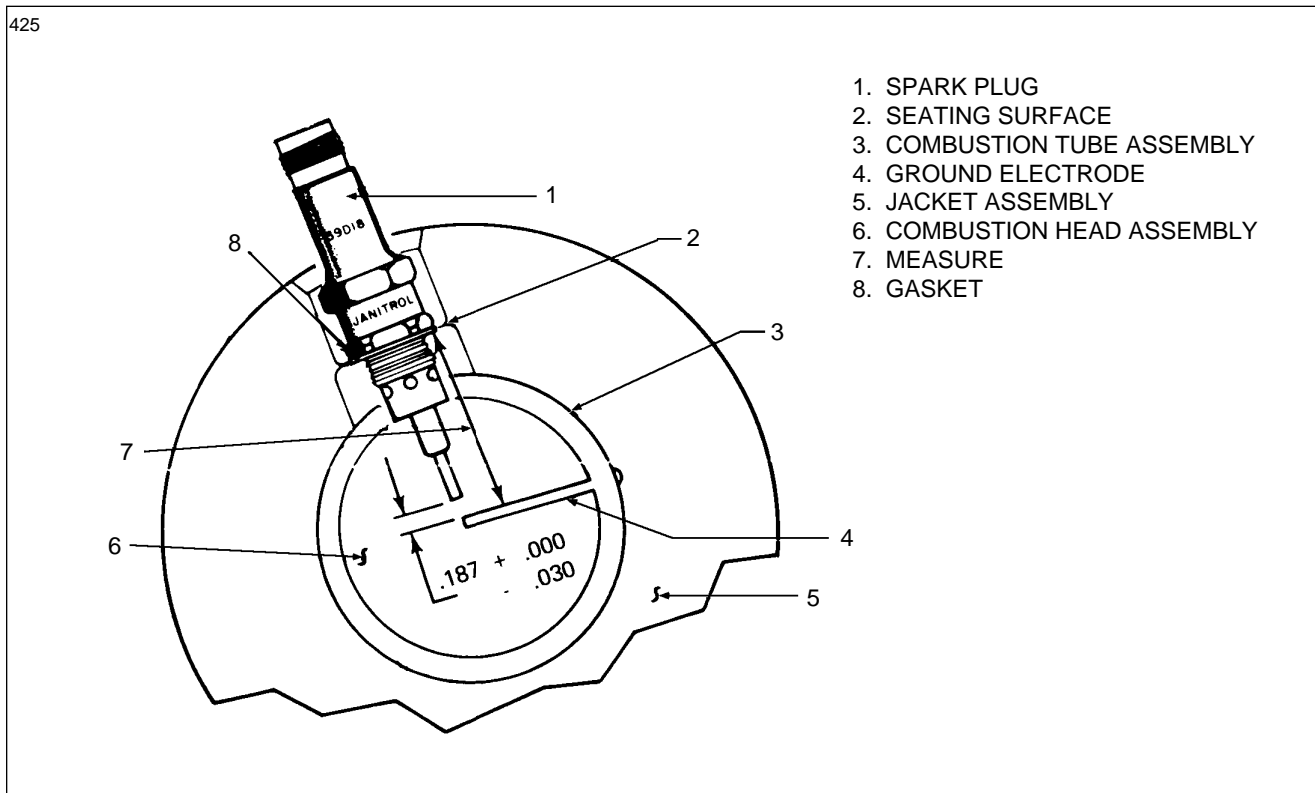

Figure 21-10. Spark Plug Gap Adjustment
3. Spark Gap Check and Adjustment: (See Figure 21-10.) A spark gap of 0.156 to 0.188 inches must be maintained on the P/ N 39D18 spark plug. This gap should be checked any time a plug is replaced or at the time of heater overhaul. A spark gap greater than that specified can shorten the life of the ignition assembly. There are several methods in which the spark gap of this heater may be checked. Method I is recommended when the heater is being overhauled and before the installation of the fuel nozzle. Methods II and III are suitable for checking the gap through the spark plug well when the heater is not disassembled.
4. Installation: (Refer to Figure 21-10.)